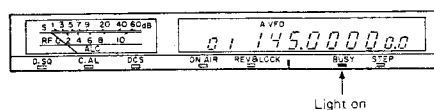

Fig. 18 Meter and display section (TS-711A/E)
- 6) Meter and display section should be set as follows Fig. 18 or 19.